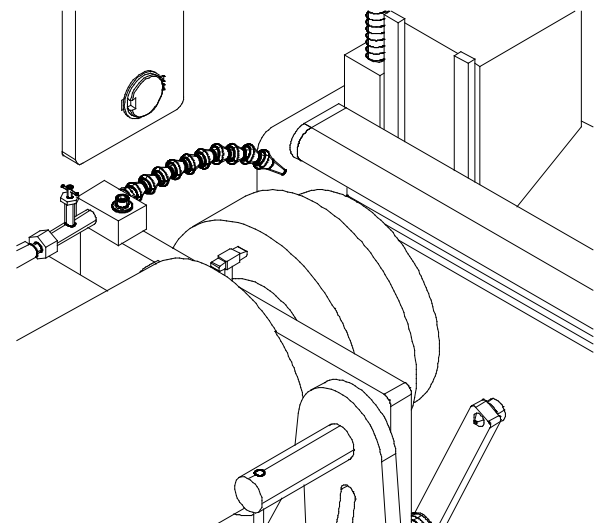

FIG. 46
**NOTE:** The area of the grinding wheel that contacts the bedknife is on the left side of the wheel. When grinding the left end of the bedknife, the area of the wheel which doesn't contact the bedknife can remain over the bedknife. See FIG. 46. However, when you go to the right end of the bedknife, the wheel must traverse completely off the bedknife.